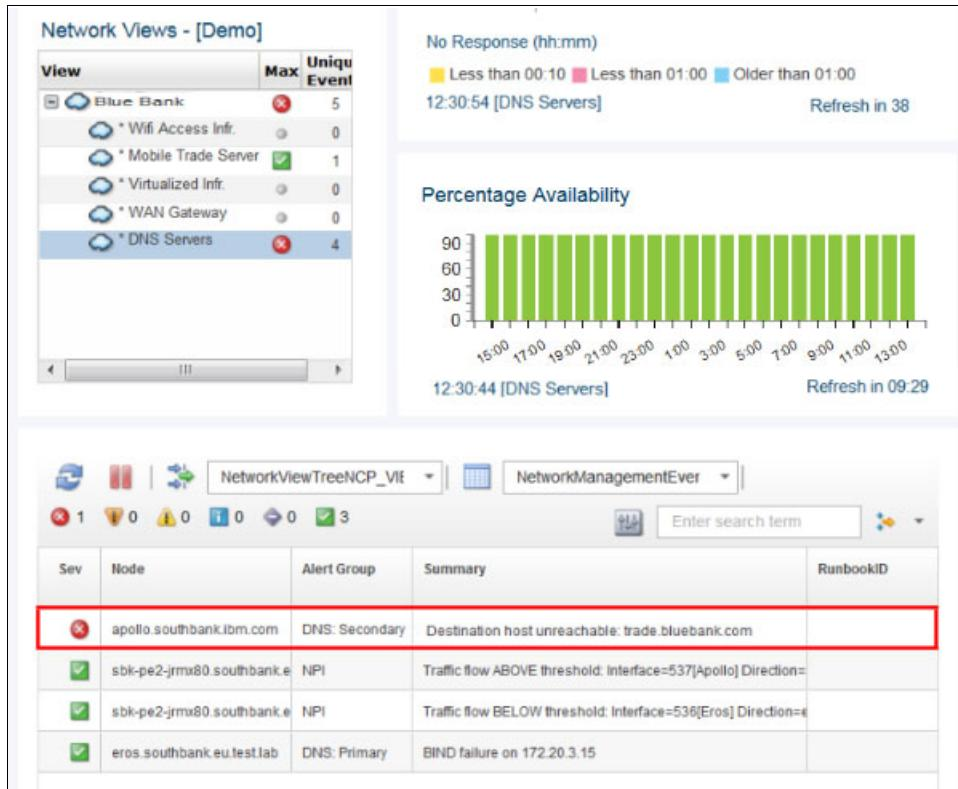

Figure 2-24 Secondary server cannot resolve the address of the Mobile Trade Server
8. Annette observes that the Secondary DNS server cannot resolve the IP of trade.bluebank.com, as seen in Figure 2-24.